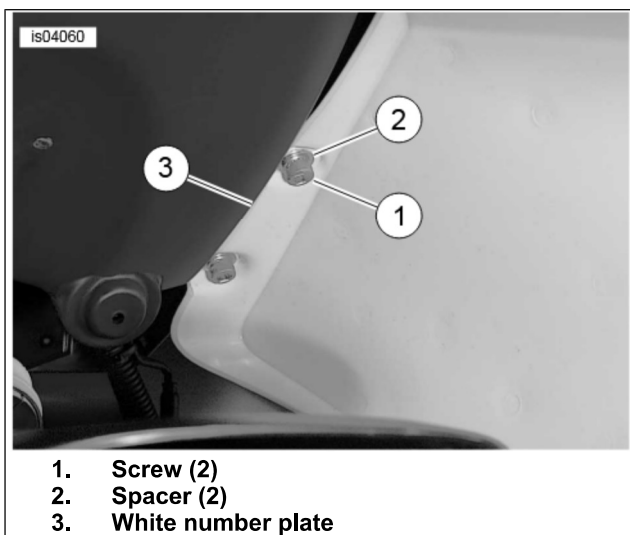

Figure 5. White Number Plate
5. See Figure 5. Remove and discard two screws (1) and spacers (2) that fasten white number plate to tail section.
6. Remove white number plate (3) from tail section.